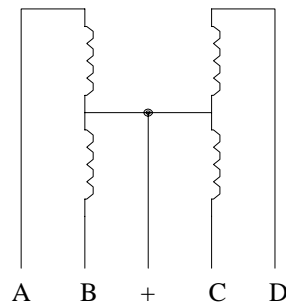
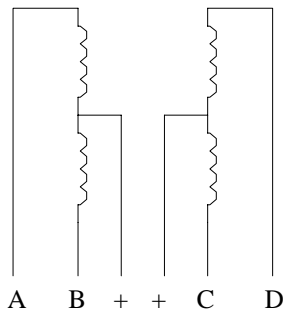

Fig 1. Five-wire stepper motor
Fig 2. Six-wire stepper motor
2. Unipolar motors. These have two center-tapped coils which are treated as four coils. These motors can have five, six or eight wires. Five-wire motors have the two center-taps commoned internally and brought out as one wire (Fig 1). Six-wire motors bring out each center-tap separately. The two center-taps need to be commoned externally (Fig 2). Eight-wire motors bring out both ends of each coil. The four "center-taps" are joined externally to form one wire. In each case the center-tap(s) are connected to a positive motor power supply.
### Five-wire motor (Fig 1)
### Six-wire motor (Fig 2)